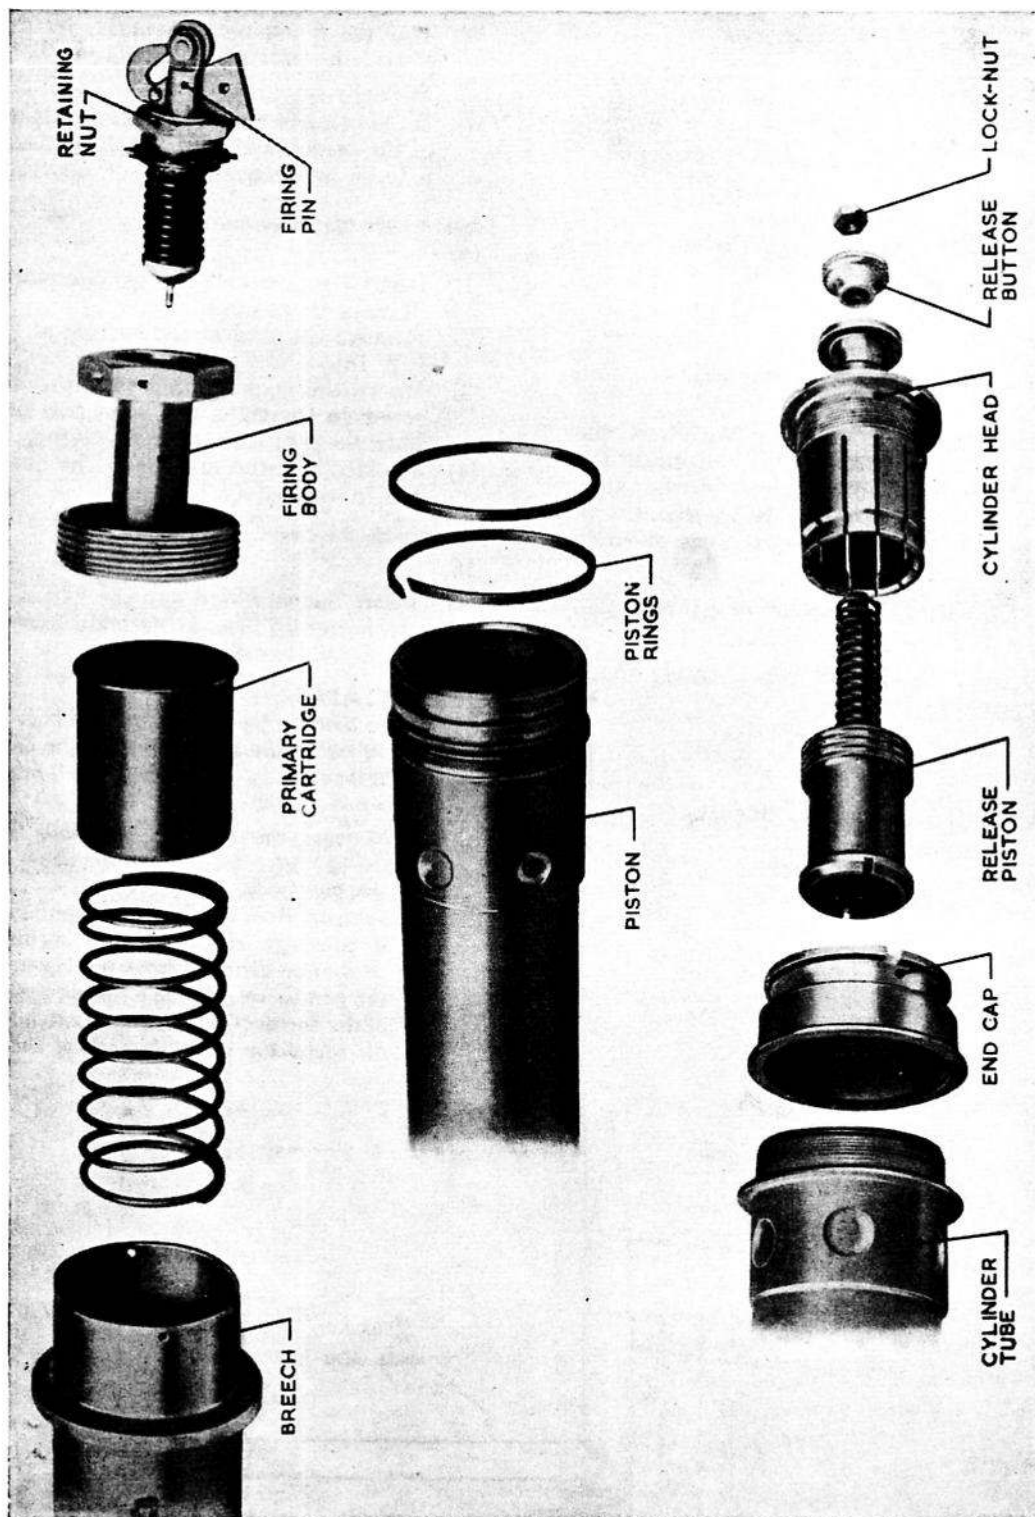

Fig. 10. Ejection gun components
- (4) If the action of the firing pin when checked as described in sub-para. (3) is unsatisfactory, the retaining nut (*fig. 10*) should be unscrewed with a $\frac{3}{8}$ in. box spanner, after the tab of the brass locking washer is bent down, and the firing pin assembly should be renewed complete with a new locking washer. Ensure that the locking washer tab already bent down engages the slot in the top of the firing body, and after the retaining nut has been firmly screwed down, one of the other tabs should be bent up to lock it.
- (5) Repeat the checks described in sub-para. (3).